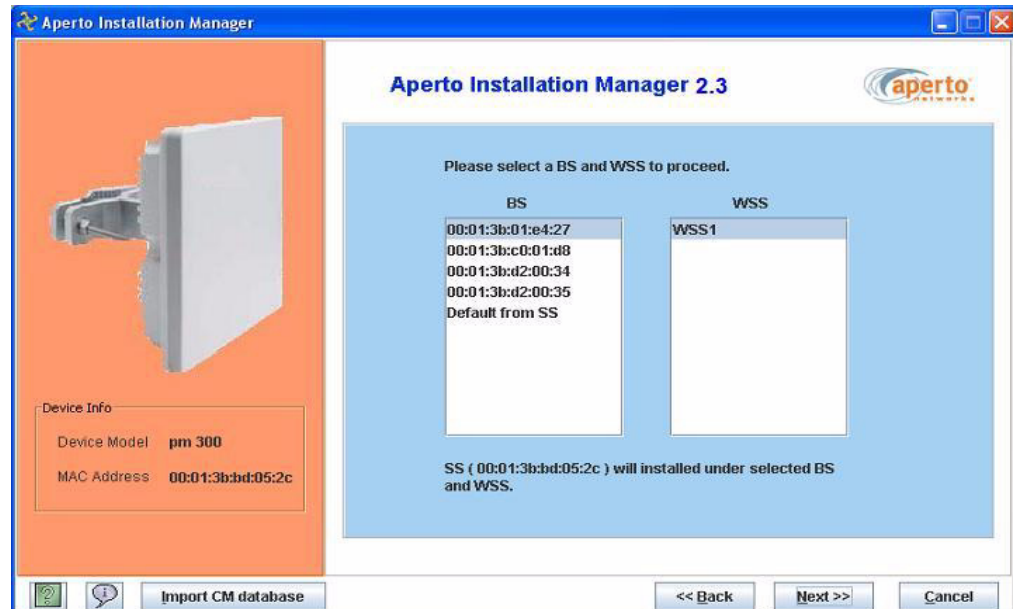
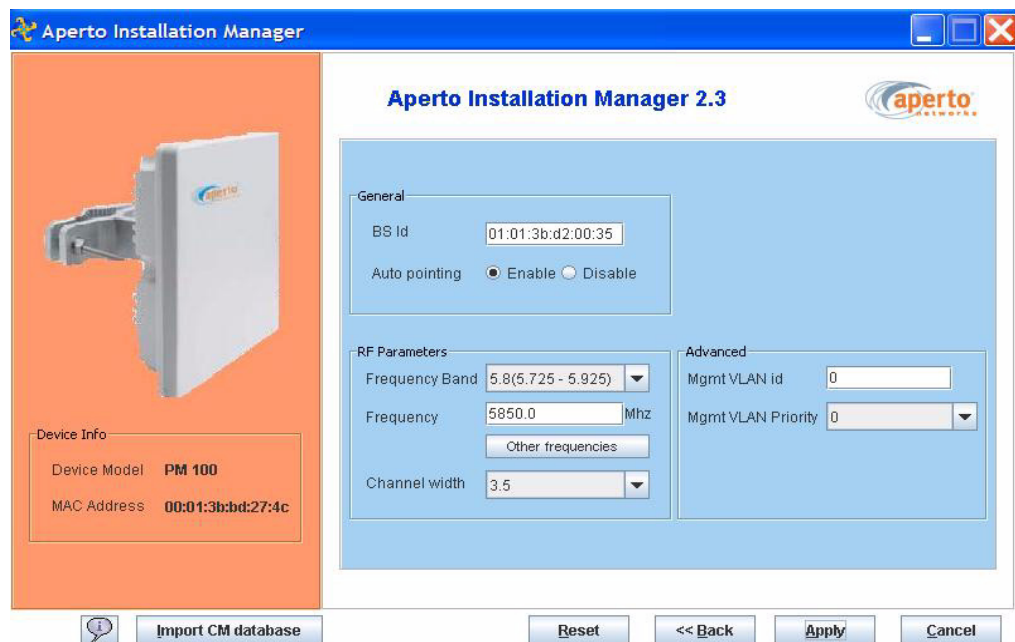
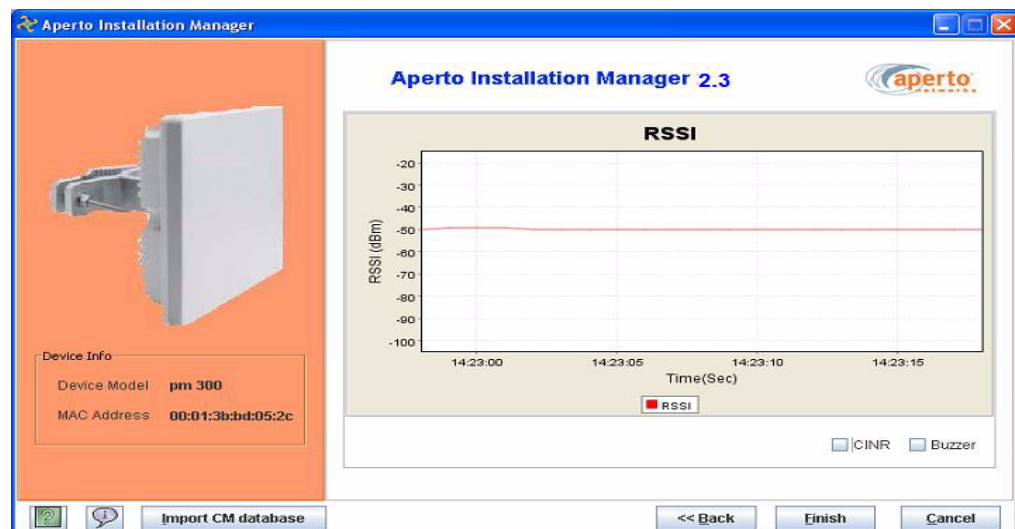

Figure 3-4 BS and WSS selection
Figure 3-5 Configuration Window: General
Figure 3-7 Alignment Window
1. In the Install Option window, select **Setup**; then click on the **Next>>** button. The Configuration Window will be displayed, as shown in Figure 3-5. The Configuration Window shows the configuration retrieved from the PacketMax 100. The MAC address should be the same as recorded on the label on the unit.
2. In the Configuration Window, if a configuration file has been imported then a different screen will show up, as in Figure 3-4. If a file has not been imported earlier, select the frequency band of the wireless link from the drop-down menu, as in Figure 3-5. (This selection must match the frequency band of the PacketMax 5000.)
8. When the restart is finished, the AIM will go into antenna alignment mode, displaying the Alignment Window shown in Figure 3-7.
1. While viewing the graph shown in Figure 3-7, move the antenna to maximize the signal strength as shown on the graph. For 3.5 MHz channel bandwidth, values greater than -92.1 dBm will work in QPSK -1/2. Values greater than -86.6 dBm will work in 16QAM -1/2. Also, values greater than -77.1 will work in 64 QAM -1/2.
1. Go to the Install Option window (Figure 3-4) and select Continue with Setup and click Next. The Subscriber Station reboots and the AIM displays the Alignment Window, as shown in Figure 3-7.